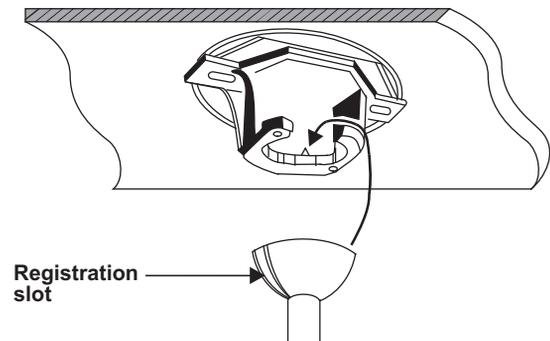

Figure 6
10. Now lift the motor assembly (fan with blades) into position and place the hanger ball into the hanger bracket. Rotate down rod until the "Check Tab" has dropped into the "Registration Slot" and the down rod and ball assembly seat firmly. The down rod and ball assembly should not rotate if this is done correctly. (Fig. 6)